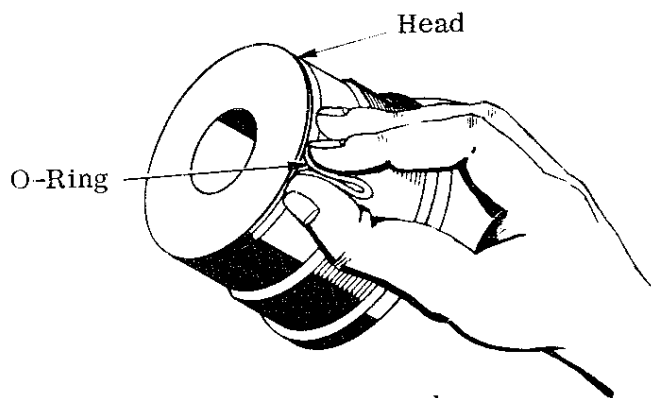

Figure G-3. O-Ring Removal
- 10 Work a slack section into the head seal static o-ring (No. 6) and pick it up out of the groove (Figure G-3) Lift the static back-up out of its groove with the needle-nose pliers.